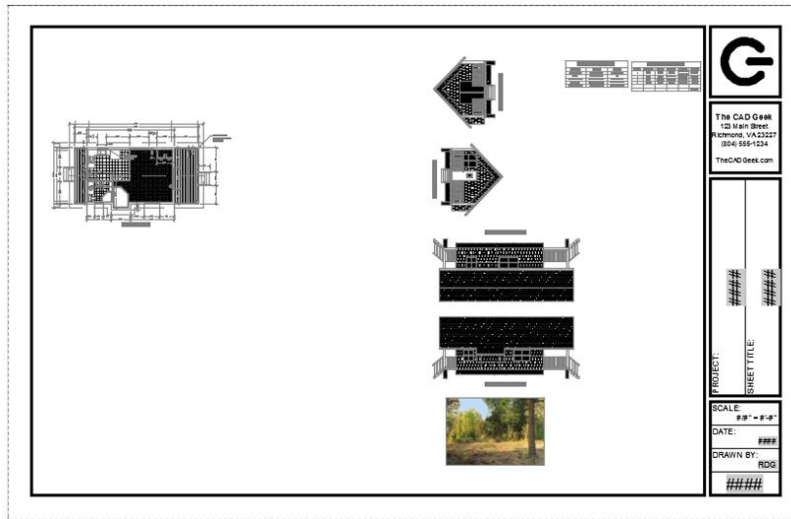

FIGURE 14.20: The cabin displayed through the new viewport
- Your cabin drawing appears in the new viewport (see Figure 14.20).